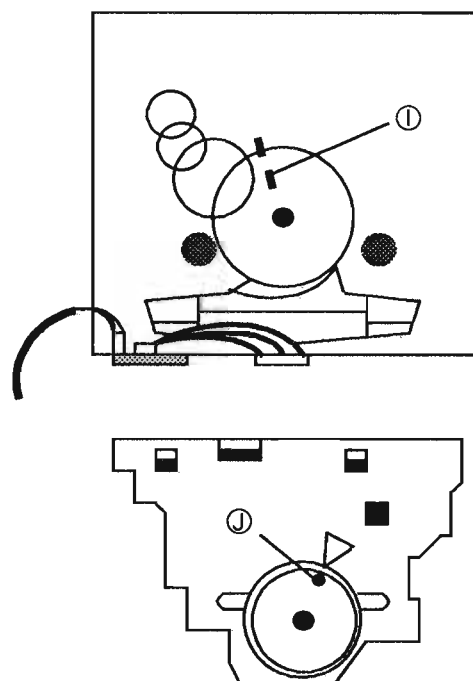

Fig 24
When assembling the cam switch, install it so that the part ① meets the part ① (Fig 24).